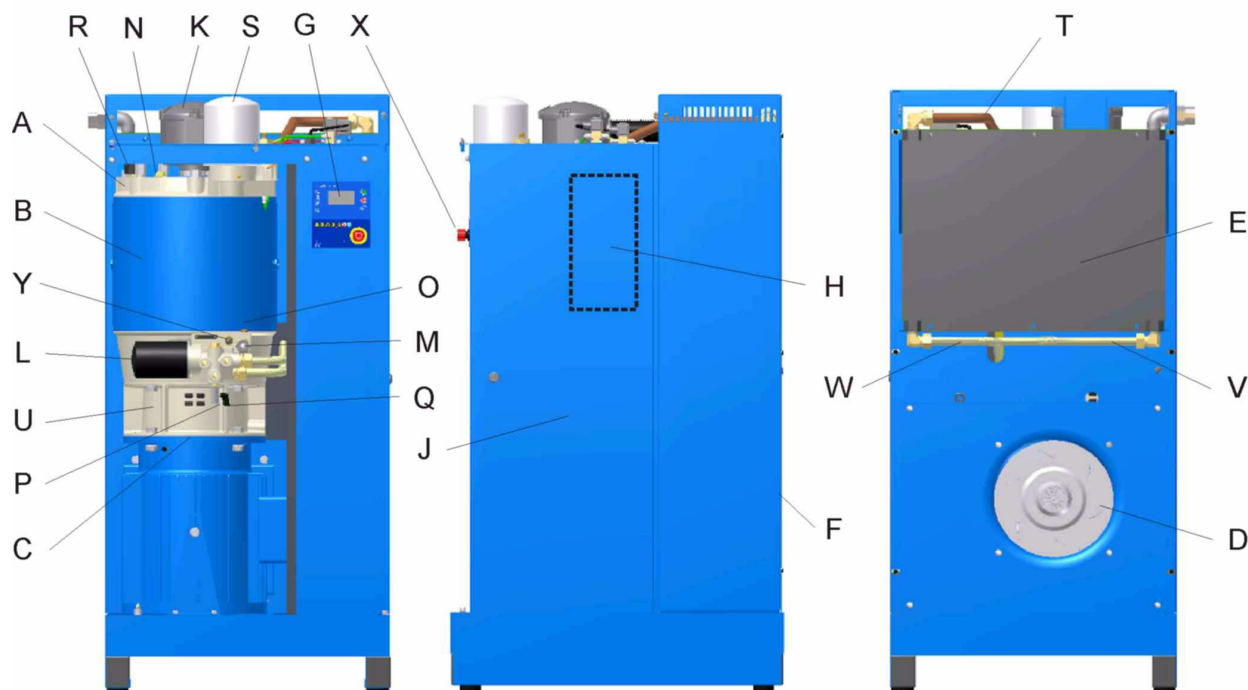

Fig. 6.2 - Compressor Assembly
Figure 6.1 shows general views of typical units, the compressor assembly is detailed in Para 6.3/ Fig 6.2, the air drier is supplied with its own manual.
6.3 Compressor Assembly (Fig. 6.2)